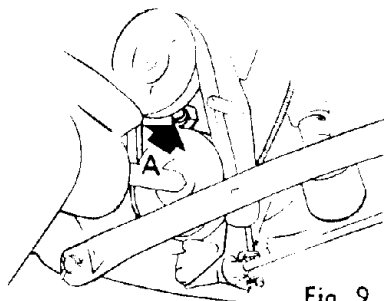

Fig. 9
1. Remove the belt cover. Notice the bolt and nut a little to the rear of the engine drive pulley attached to the clutch backing plate (fig. 9-"A"). Loosen this nut. Do not take it off completely.